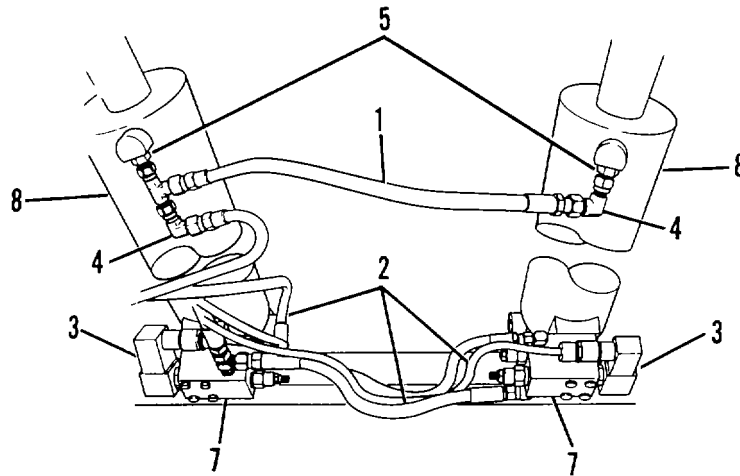

Figure 3-37.2. Lift Cylinders, Replacement.
- (1) Install fittings (5, Figure 3-37.2) in cylinder.
- (5) Install roll pins (1 and 3).
- (6) Put preformed packing (not shown) in position between hold valve (7, Figure 3-37.2) and cylinder (8).
- (7) Put hold valve (7) in position on cylinder (8) and install four bolts with washers.
- (8) Install elbow and tee fittings (4) on cylinder (8).
- (9) Connect hydraulic hoses (1) and (2) and solenoid connectors (3) to the cylinder (8) and hold valve (7) using the tags for identification.
- (10) Lubricate fittings at both ends of cylinder with GAA grease.
- (11) Start SPEMS and remove inspection/service brace.
- (12) Check hydraulic reservoir and refill if necessary. Refer to para 2-5, PMCS.
- (13) Perform operational check for proper function.